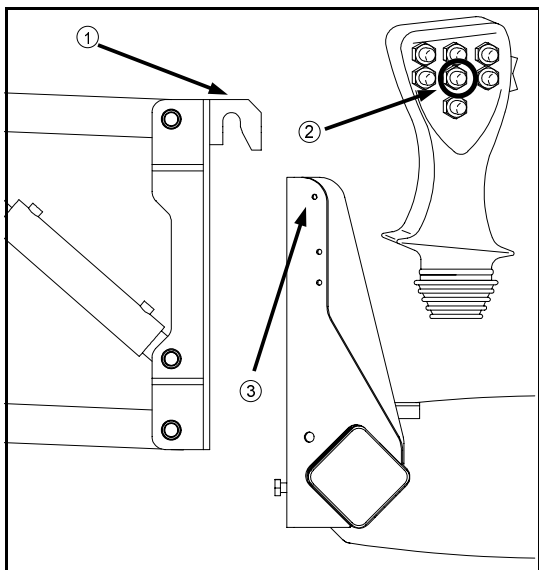

FIG 2.3
After removing all 16 mounting bolts, with the booms resting on all four support stands, depress the lower transom button (fig. 2.3, item 2). This will cause the lift arm plate to raise. Continue pressing the button until the quick-attach “hook” has cleared the “quick-attach” pin (fig. 2.3, item 1 & 3).